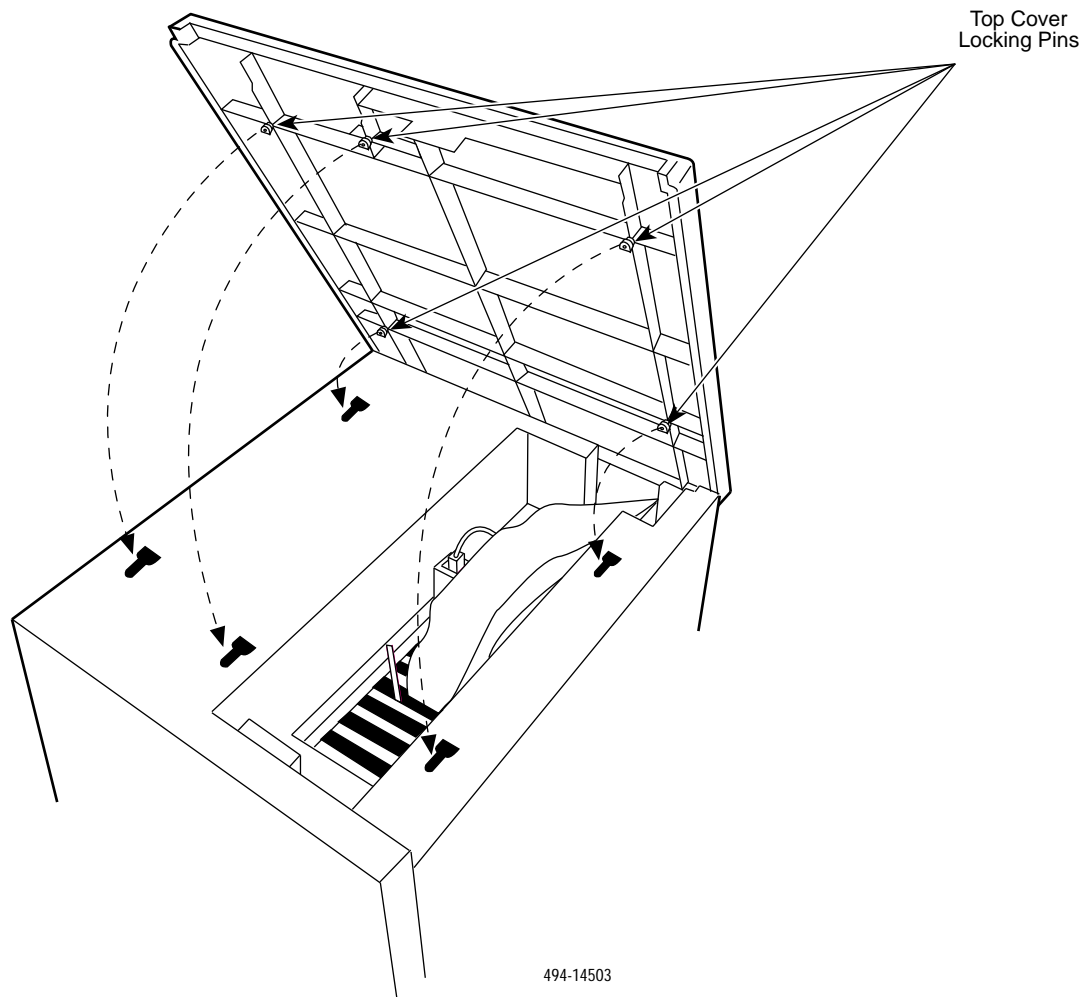

Figure 2-23. System 15000 — Top Cover Locking Pins
7. Place the top cover on the chassis, making sure that the locking pins on the cover underside are positioned in the locking slots. Slide the cover towards the front of the chassis until the locking pins (see Figure 2-23) engage.